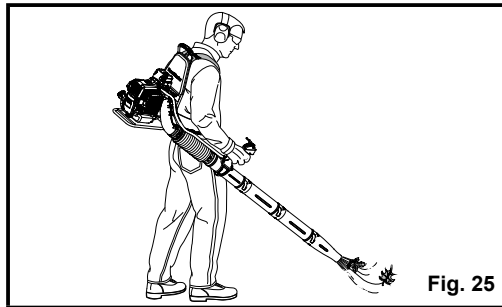

Fig. 25
USING THE BLOWER (See Fig. 25)
- Hold the handle firmly with right hand. Make sure the air stream can work close to the ground (Fig. 25).